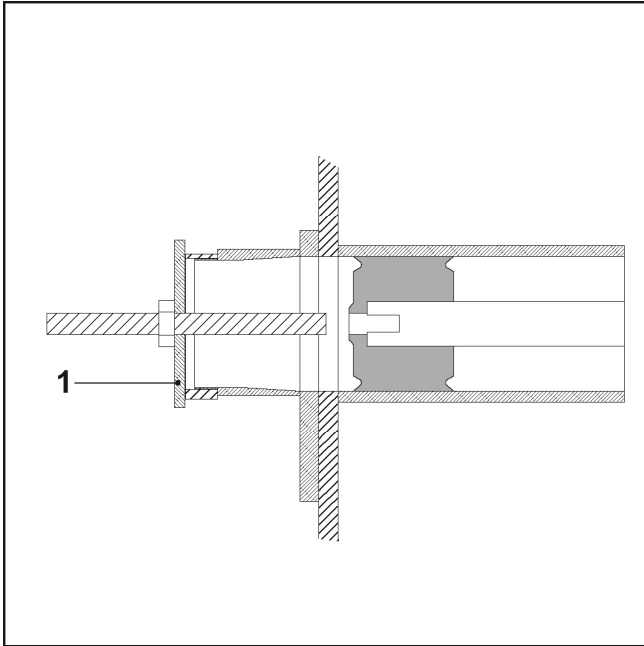

FIG.50
- Mount the flange for removing the piston (FIG. 50-REF. 1).